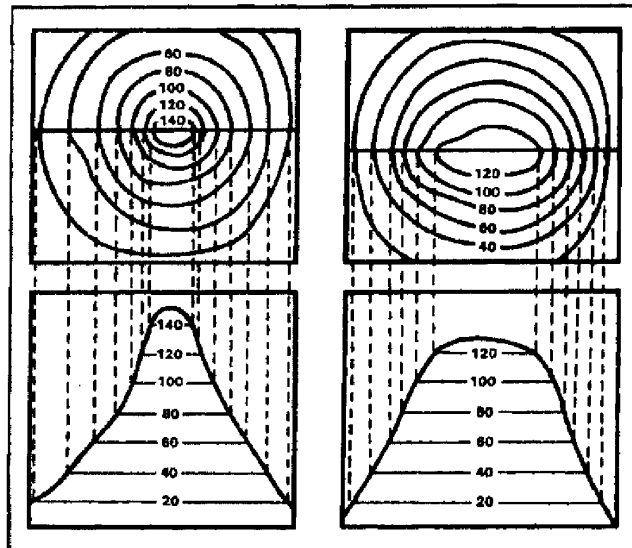

Figure C-26. Elevation
d. When the contour lines are close together at the top of the hill, the hilltop is pointed. When the contour lines are widely spaced, the hilltop is flat (figure C-26).